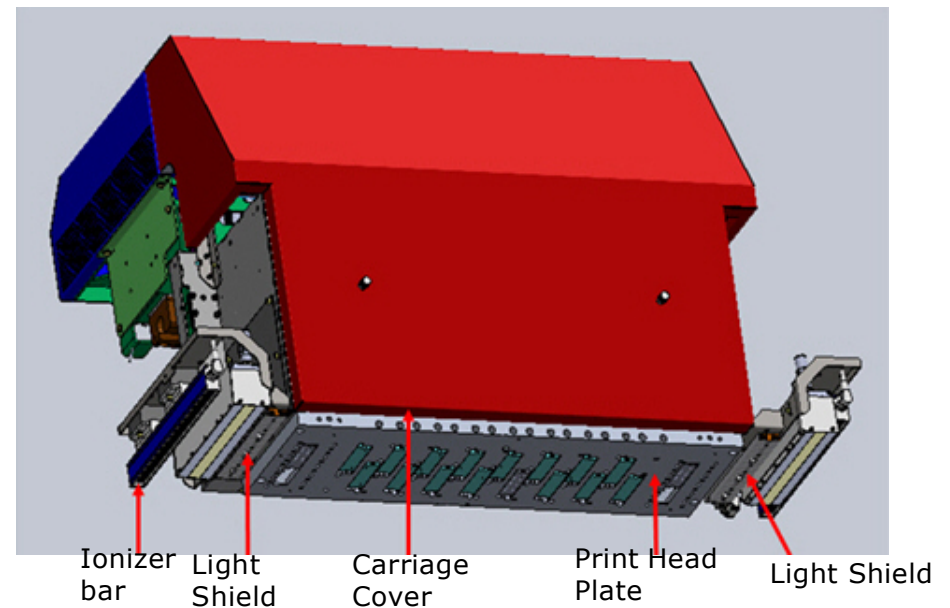

Figure 4-8 : Carriage Underside
1. Using a lint free wipe dampened with IPA, wipe the underside of the following areas: (see Figure 4-8.)